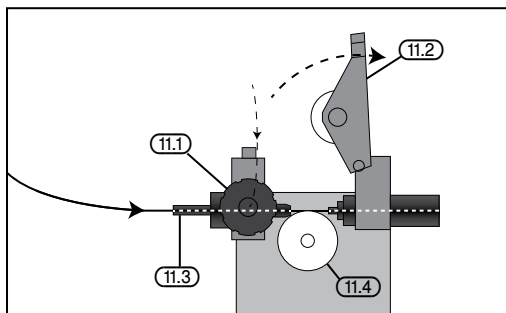

FIG. 1
7.3 INSTALLING THE FILLER WIRE – FIGS. 1 - 3